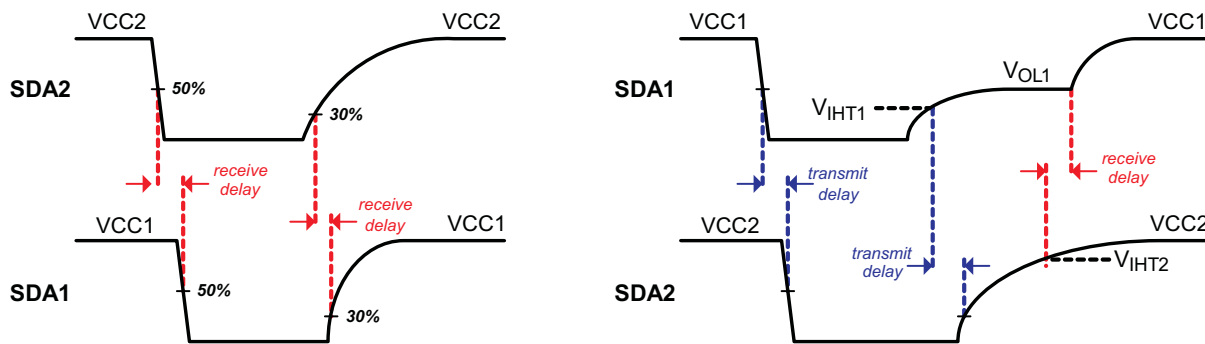

Figure 29. SDA Channel Timing in Receive and Transmit Directions
Figure 29 demonstrate the switching behavior of the I²C isolator, ISO1540, between a master node at SDA1 and a heavy loaded bus at SDA2.
10.1.2.1 Receive Direction (Left Diagram of Figure 29)